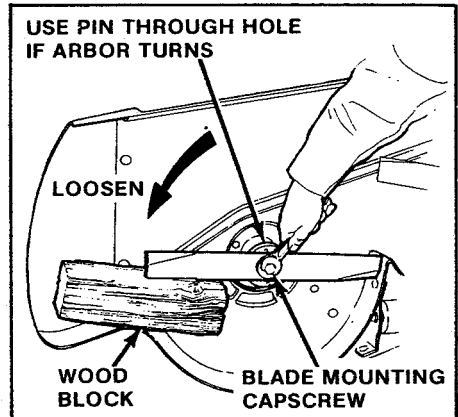

Figure 16. Removing Blade
2. Position the mower as in figure 16.
4. To remove the blade for sharpening, use a wooden block to hold blade while removing the capscrew (figure 16). Position the wrench as shown so that your hand will not fall onto the blade cutting edge if wrench slippage occurs.